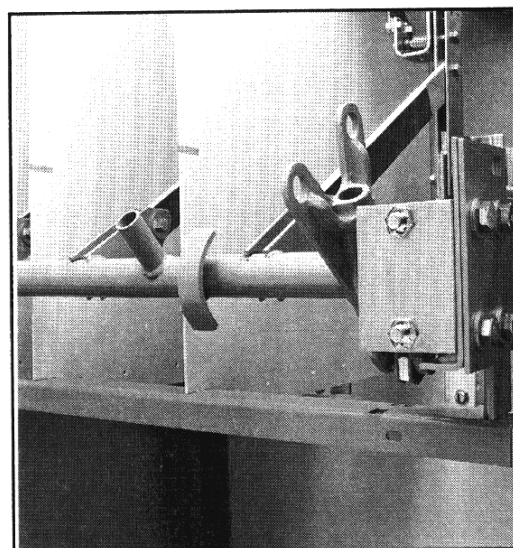

Fig. 14 Maintenance Hub Location
This interlock prevents the door of the enclosure from being opened when the switch is closed. When the switch is closed, a cam welded to the operating shaft engages a bracket welded to the inside of the switch door, preventing the door from being opened. (See Fig. 14.)
**5.1.3** Check the engagement of the flicker blades by first closing the switch. Next, insert the removable handle in the pipe-like maintenance hub welded to the switch shaft (see Fig. 14) and slowly open the switch. The flicker blades should remain engaged in their contact fingers while the main blades open. When the main blades clear the break jaws, they will hit a stop on the flicker blade brackets and start the flicker blades out of their contact fingers. The flicker blades will then snap open from the forces in their charged torsion springs.